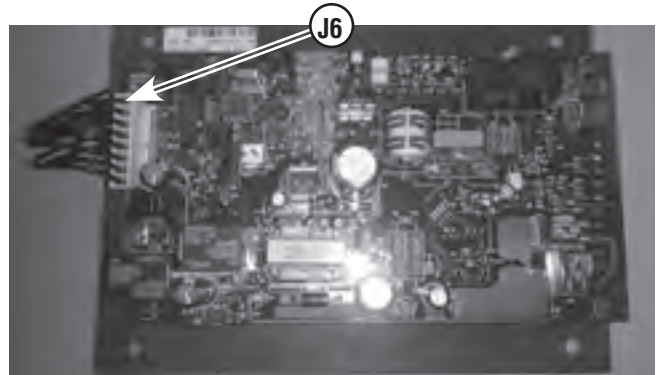

Figure 4A
- Remove the screws to access the control board on the back of the panel. The generator will have either of two control boards (Figure 4A or 4B).